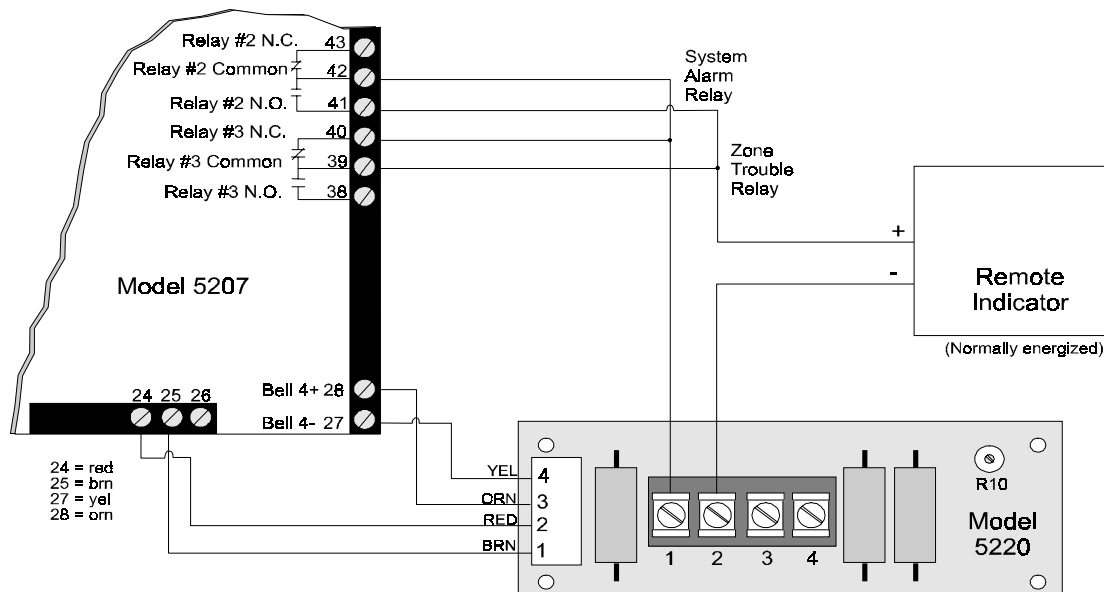

Figure 4-8 Polarity Reversal Connection
2. Wire the 5220 to the 5207 using the four-wire pigtail provided as shown in Figure 4-8 (next page). This diagram also shows how to connect the 5220 to the remote indicator.